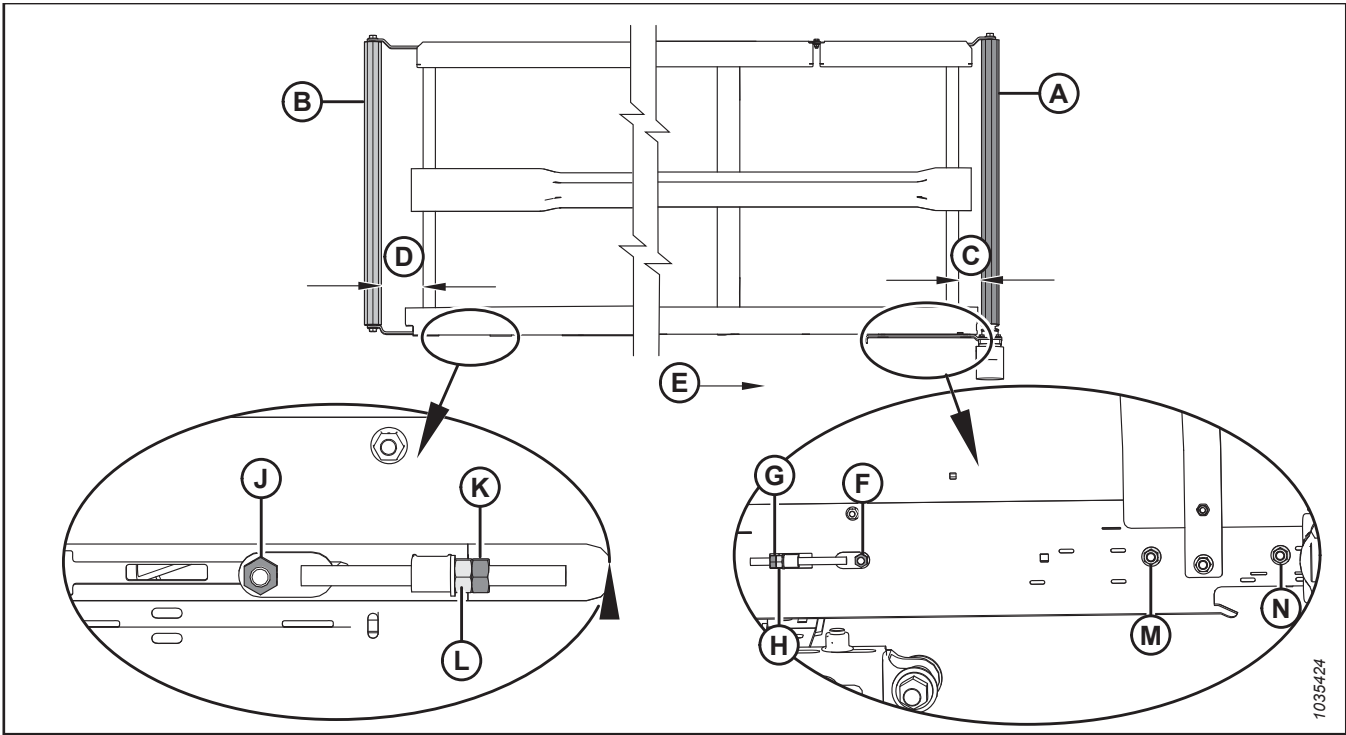

Figure 4.250: Draper Tracking Adjustments – Left Draper
2. Adjust drive roller (A) to change **C** (refer to Table 4.2, page 422 and Figure 4.250, page 422) as follows:
- a. Loosen nuts (F), (M), and (N), and jam nut (G).
- b. Turn adjuster nut (H).
- c. Tighten nuts (F), (M), and (N), and jam nut (G).
3. Adjust idler roller (B) to change **D** (refer to Table 4.2, page 422 and Figure 4.250, page 422) as follows:
- a. Loosen nut (J) and jam nut (K).
- b. Turn adjuster nut (L).